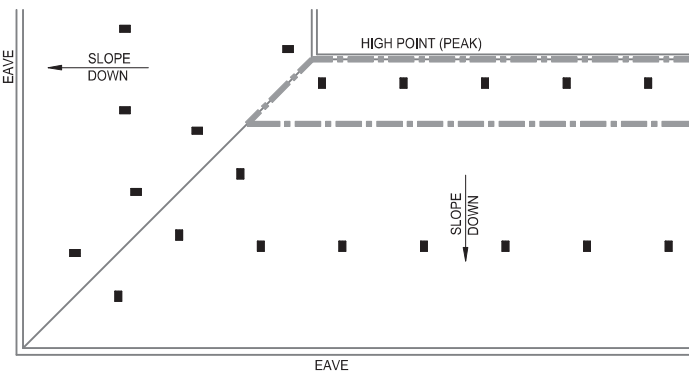

FIGURE 23C: 2 ROW PROTECTION CALCULATION 2
- Calculation #2: Calculate the most hydraulically demanding 5 contiguous sprinklers along the high point. See FIGURE 23C.